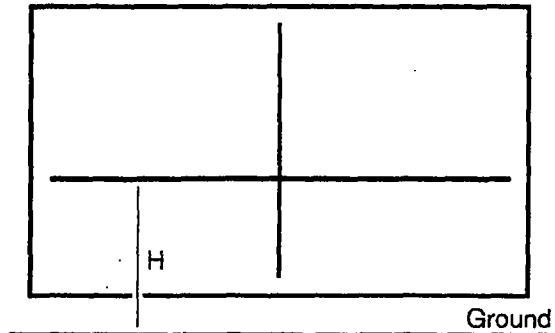

Figure 8 H = foglamp centerline height minus 6 inches @ 25 feet from test screen.
1. Mark the test screen or wall according to Figure 8. Determine dimension "H" (Figure 8) by measuring from the ground to the centerline of the fog lamp glass (small dot in lens), and then subtracting 6 inches.